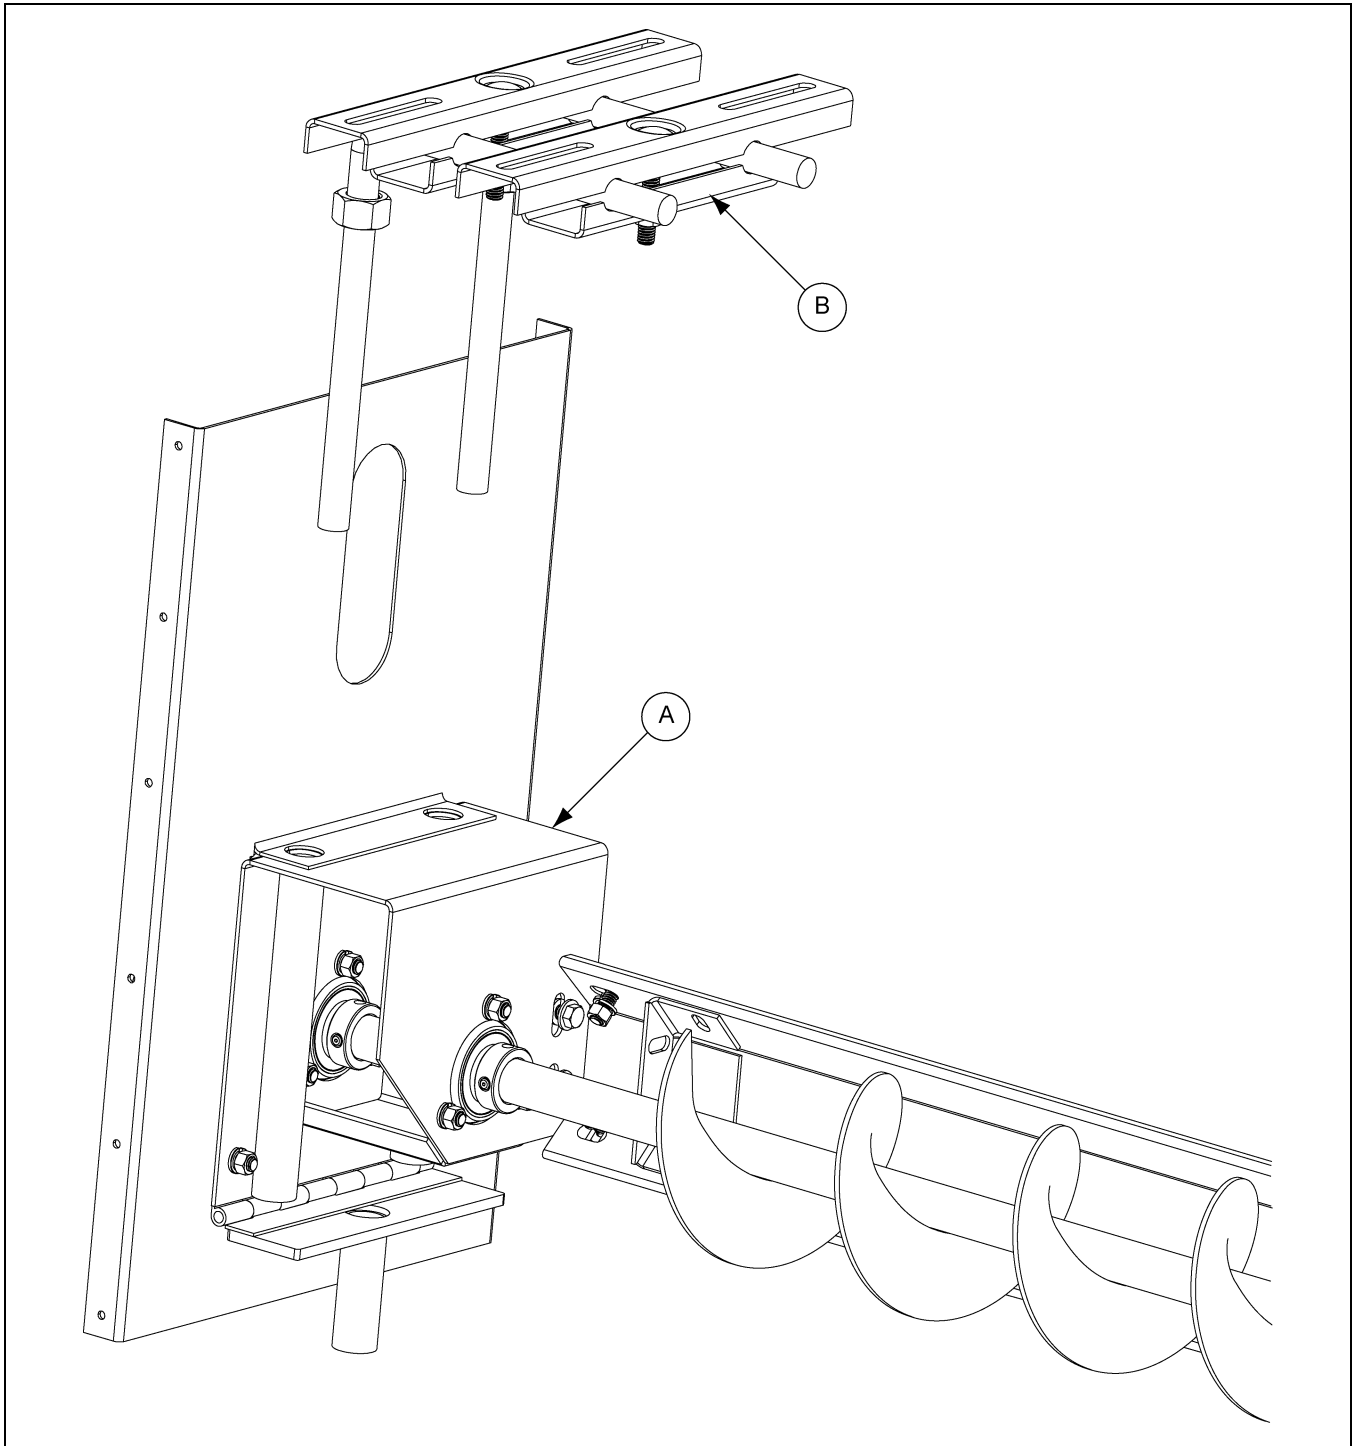

Figure 4Q
Step 17: Attach drive mount. (See Figure 4Q.)